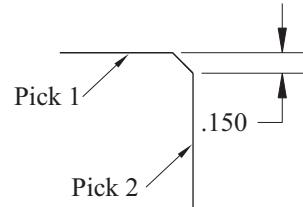

Figure 5-24 Selection Points for Chamfering the .15 Distance
50. Pick the necessary lines, as shown in Figure 5-24, and press Enter to accept.